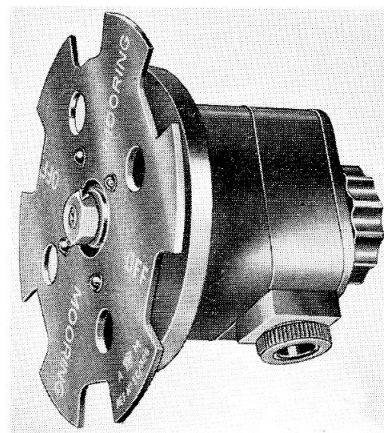

Fig. 2. Mooring light switch
5. This is a weatherproof switch for use on flying boats, and is illustrated in fig. 2 and 3. It is a double-pole rotary on/off switch, which can be operated either by rotating the front plate, or by turning the knob at the rear, both of which are engraved MOORING and OFF in the appropriate positions.